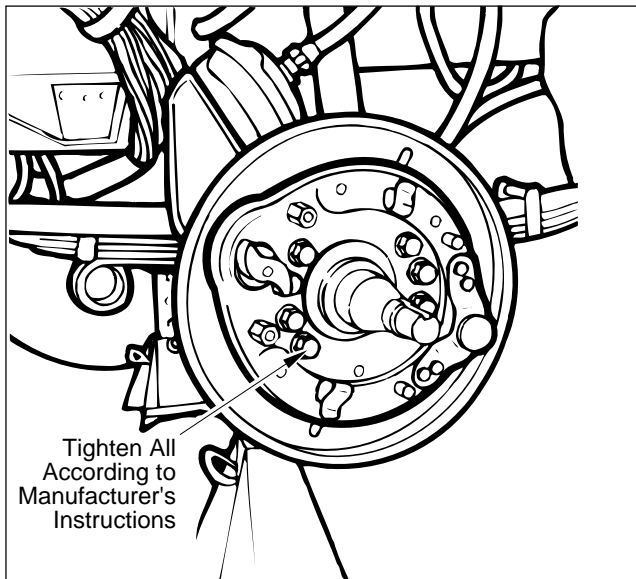

Figure 47. Installing Spider Mounting Hardware
4. Sequentially torque nuts according to manufacturer's specifications, Refer to Figure 47. **T**